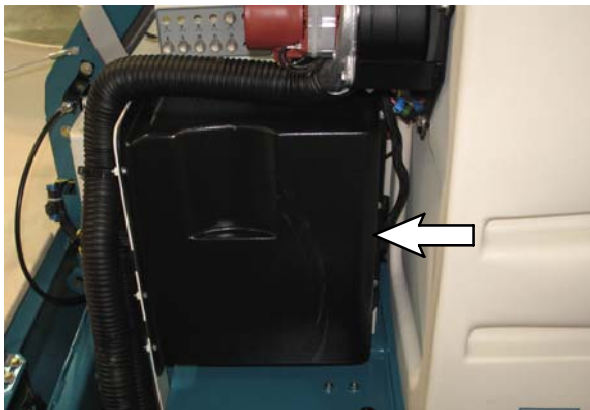

FIG. 6
7. Remove the cover from the control box. Set the hardware and cover aside. Refer to Fig. 6.